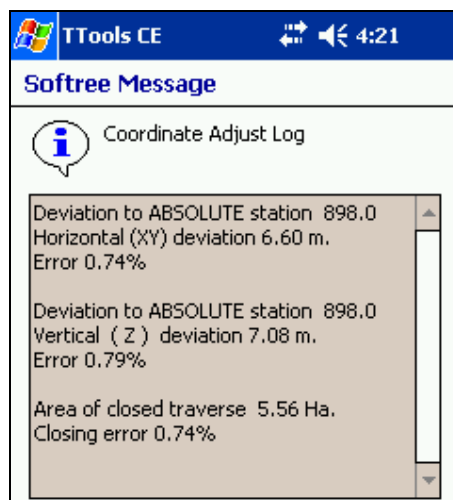

Figure 7.0: Coordinate Adjustment Log
2. Select menu Coord|Close Traverse. The program closes the traverse and displays a *Coordinate Adjustment Log*. Similar to the one displayed in Figure 7.0
7. If traverse “A” has other absolute coordinates (for example if it has been closed) then you will see the coordinate adjustment log – figure 7.0 above. Press *OK* to close the log.
8. You will see the coordinate adjustment log – Figure 7.0 above. Press *OK* to close the log.
11. If your traverse has other absolute coordinates (for example if it has been closed) then you will see the coordinate adjustment log – figure 7.0 above. Press *OK* to close the log.